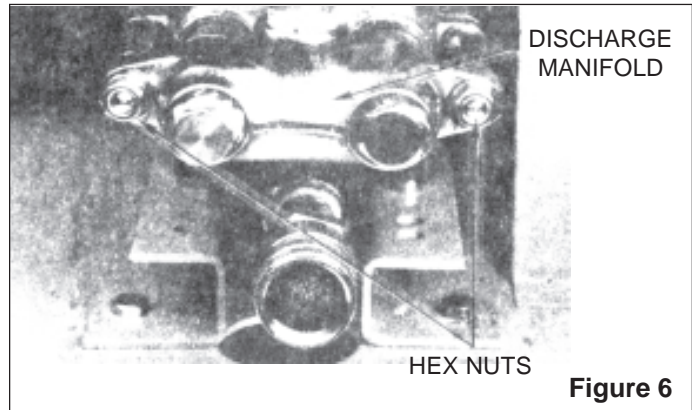
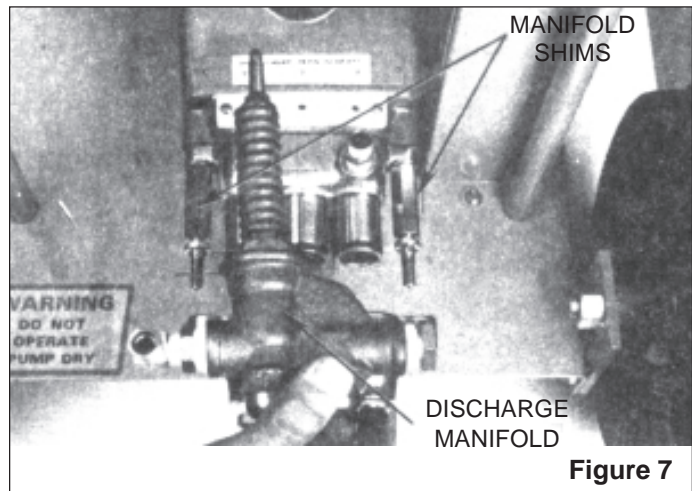

Figure 6
Figure 7
Attach pressure gauge (optional) and bushing to 3/8" outlet on the right side of discharge hose (Figure 6). Loosen and move pressure clamp to a new position on the bypass hose. Start pump and adjust pressure to 600 *psi* while drawing from the drum. Tighten clamp to increase pressure, loosen clamp to decrease pressure.
3. Remove pump discharge manifold by removing the two hex nuts and lock washers which secure manifold to the pump assembly (*Figure 6*) - pull manifold away from pump assembly (*Figure 7*). Make certain manifold shims (washers) remain on stud (*Figure 7*). After manifold is removed, replace hex nuts and lock washers on studs to prevent their loss.